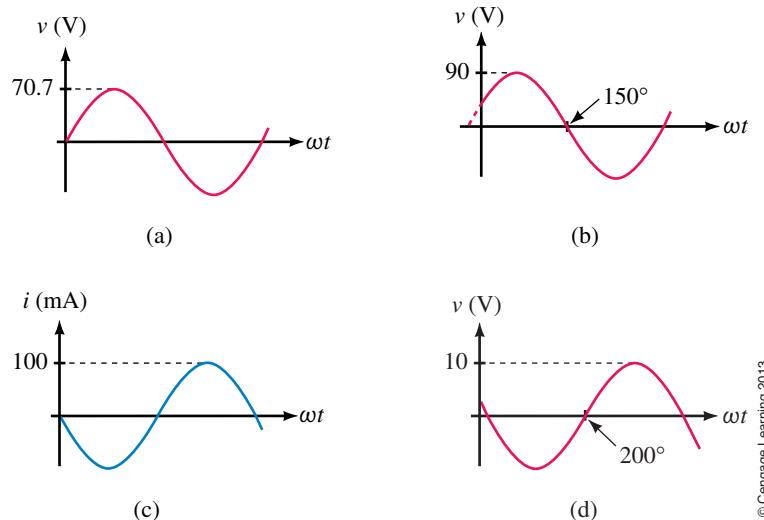

FIGURE 16–49
- Sketch e_1 , e_2 , and v as per Figure 16–13.
12. Express the voltages and currents of Figure 16–49 as time domain and phasor domain quantities.
13. For Figure 16–50, $i_1 = 25 \sin(\omega t + 36^\circ)$ mA and $i_2 = 40 \cos(\omega t - 10^\circ)$ mA.